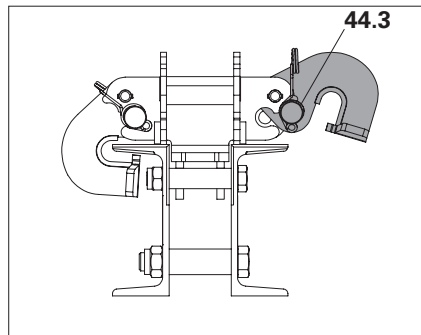

Fig. D2.04
1. Lift safety pin (**44.3**). (Fig. D2.04 + D2.04a)